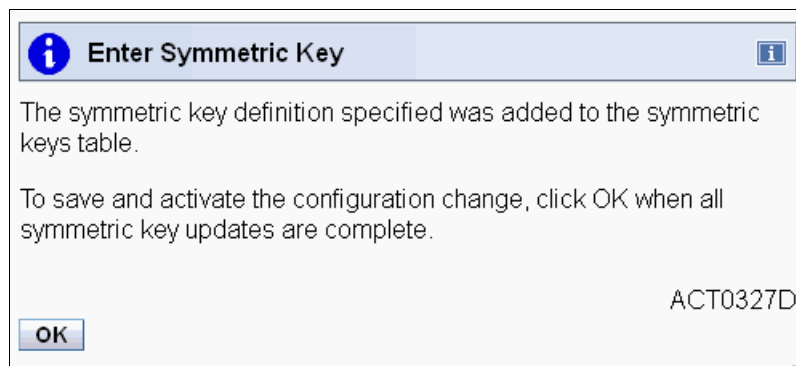

Figure 9-15 HMC: Customize Console Date and Time Save and Activate symmetric key
5. The Enter Symmetric Key window opens (Figure 9-15). Click **OK** to proceed.